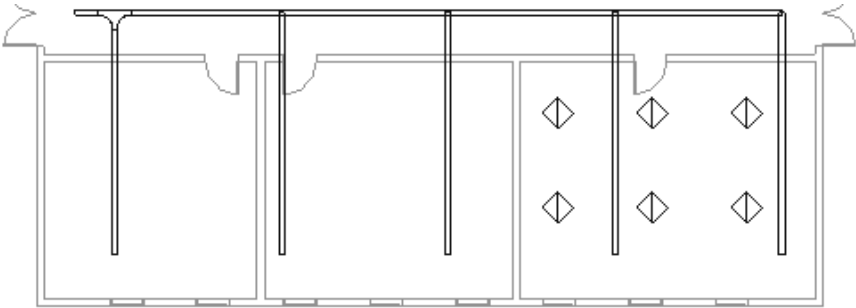

Figure 2-88
- 5. Select the new cable tray (ensuring that the offset is to the right) and continue until there are five total trays, as shown in Figure 2-88.